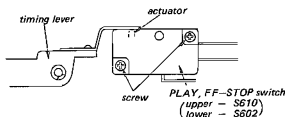

Fig. 3-7. PLAY, FF-STOP switch (S602, 610) position adjustment
- Place the unit in the FF or REW mode, to energize the brake solenoid. Check to see that the actuator of microswitch is perfectly pushed with the timing lever as shown in Fig. 3-7. If necessary, adjust the position of the microswitch by loosening the two switch holding screws.